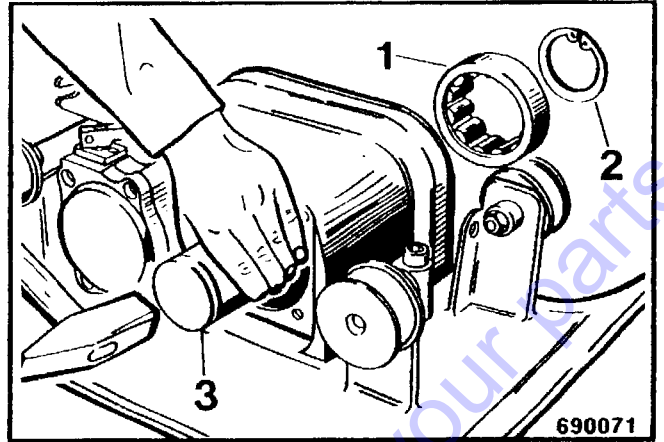

Fig. 13
- Remove the circlip 2 (Fig. 13).
- Drive the bearing (1) out of the exciter shaft housing by using a punch (3).